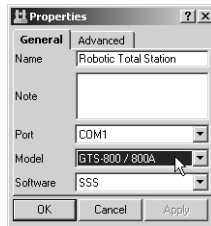

Figure 2-32. Properties – General Tab
2. On the **Properties** dialog box, click the *General* tab and set the following information (Figure 2-32), then click **Apply**: